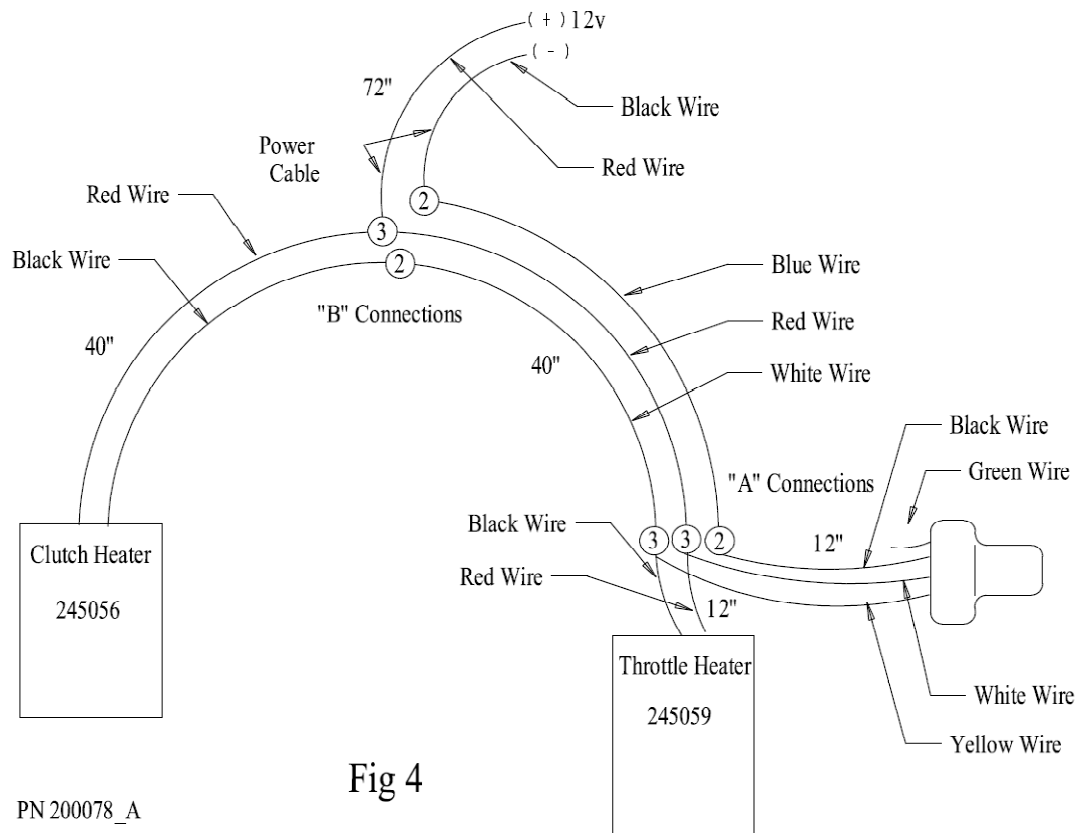

Fig 4
14. There should be room inside the Switch Housing for the wire connections using the plastic connectors in the Kit otherwise the wires should be soldered. The connections should be made like shown in Fig 4 below where the "A" connections are done in the Switch Housing and the "B" connections in the yoke area.
15. Use the plastic connectors in the Kit to make the wire connections. The small ones with 2 holes and a yellow cap are used for those shown on Fig 4 with a 2 in the circle and the ones with 3 holes and a red cap are used for those connections with a 3 in the circle. Push the wires into the connectors to the end and using pliers **push the cap down completely flat to pierce the wires and make the connection.** The connectors are clear on the back side so one can see that the wires are inserted all the way to the top. Grease will also need to be pushed out to assure a good connection. Wipe off the grease and pull on the wires to assure they are connected.